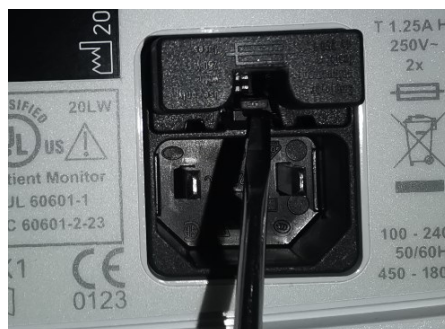

Figure 13 Replacement, Main Fuses
2. Remove the fuse holder from the AC Power Connector by disengaging the tab and pulling out the fuse drawer according to Figure 13 Replacement, Main Fuses.